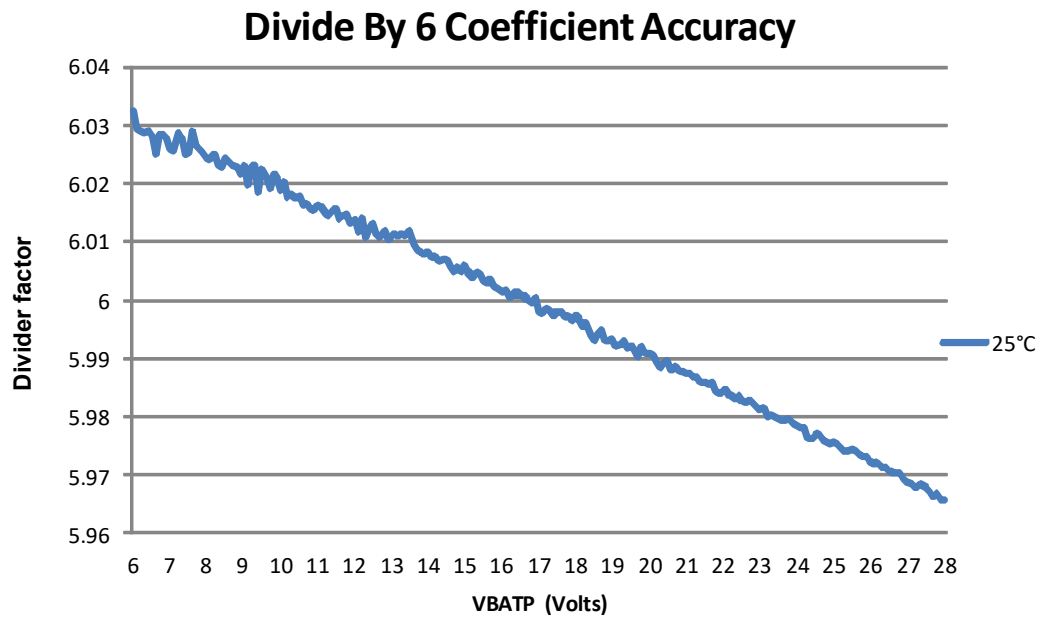

Figure 5. Divide by 6 coefficient accuracy
23. Calibration of divider ratio can be done at $V_{BAT} = 12\text{ V}$, $25\text{ }^{\circ}\text{C}$ to achieve a higher accuracy. See Figure 5 for AMUX offset linearity waveform through the operating voltage range.